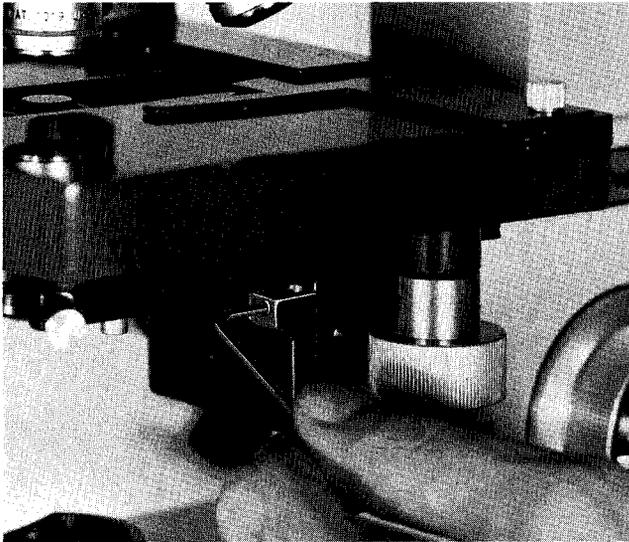

Figure 14. Condenser Stop Retaining Screw
- (a) Loosen condenser stop retaining screw (Figure 14), using 5/64" wrench provided.
focus. If not, loosen condenser stop retaining screw (Figure 14), focus iris leaves using condenser focusing knob as shown in Figure 27, and retighten screw.